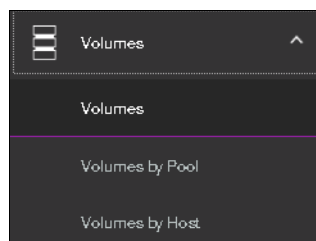

Figure 6-51 Volumes submenu option from main panel
1. Click **Volumes** on the main panel and select **Volumes** sub-menu option as shown in Figure 6-51.